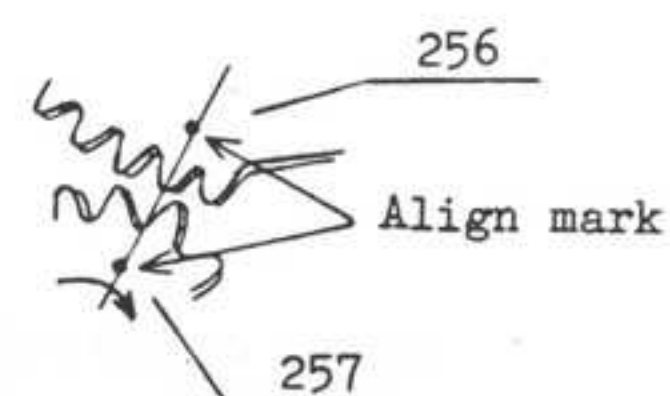
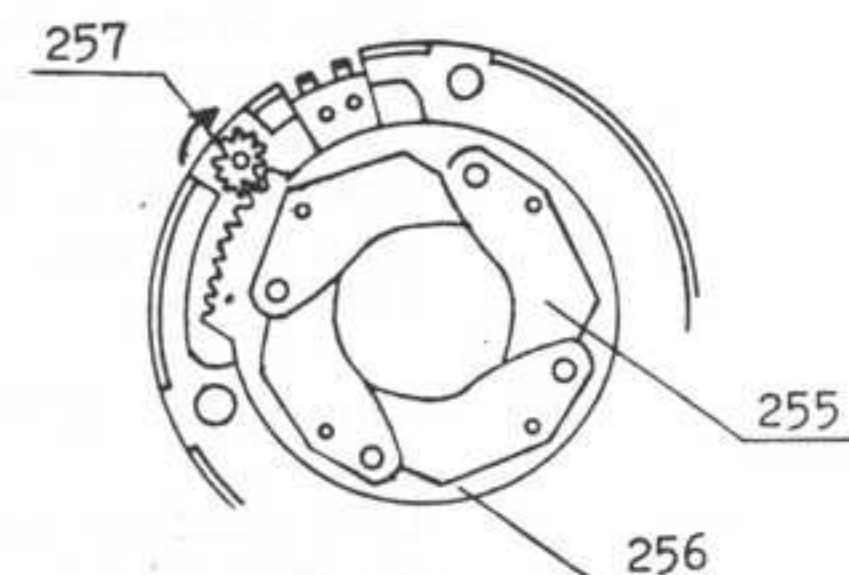

Fig 30
Fig 31
Insert Diaphragm gear shaft (257) into Shutter case (258). Put Diaphragm drive plate (256) in, interlocking its gear part with that of Diaphragm gear shaft (257). Turn Diaphragm gear shaft (257) fully in the direction of an arrow. (Fig. 30) Build 4 Diaphragm blades (255) as shown in Fig. 31, adjust their aperture to match the opening of Diaphragm drive plate (256), place Diaphragm hold (254) on and fix them with Shutter set lever screws (253).